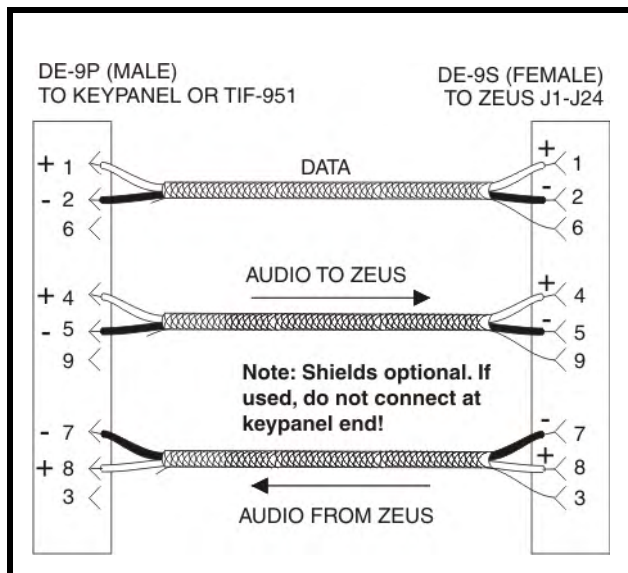

FIGURE 9. Keypanel and TIF Intercom cable wiring diagram
Pin Numbers are generally stamped on the connectors, but the numbers are very small. It helps if you know that the connectors you use generally follow a standard numbering sequence, with the male and female connectors having mirror-image numbering. See Figure 9.
- DKP-8, DKP-12, KP-12: Refer to the User Manual for all installation and operation information. When connecting to the intercom system, use the 9-pin FRAME connector on the back of the unit. KP-12 Only: There are two (2) optional back panel modules: the Rear Connector Module and the GPI Module. Refer to the separate installation instructions supplied with each of these modules.
- All Keypanels: When constructing keypanel cables, use the 9-pin intercom cable diagram in this manual (Figure 9 on page 17).